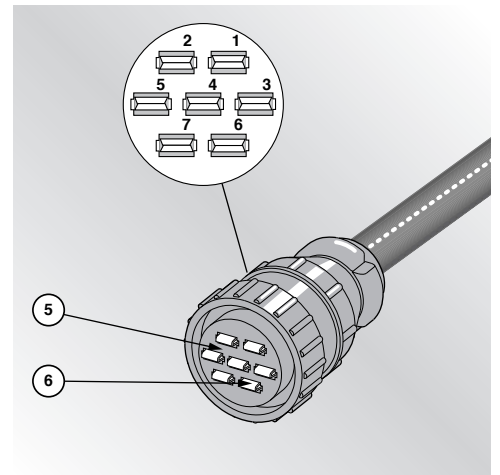

Fig. 1.2
- Check the 12 Volts AC on the output connector, pairs: 5 & 6 (See Fig. 1.2).